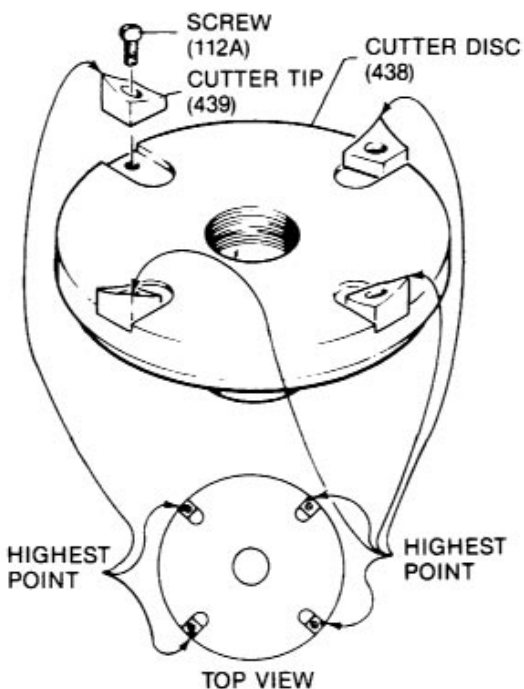
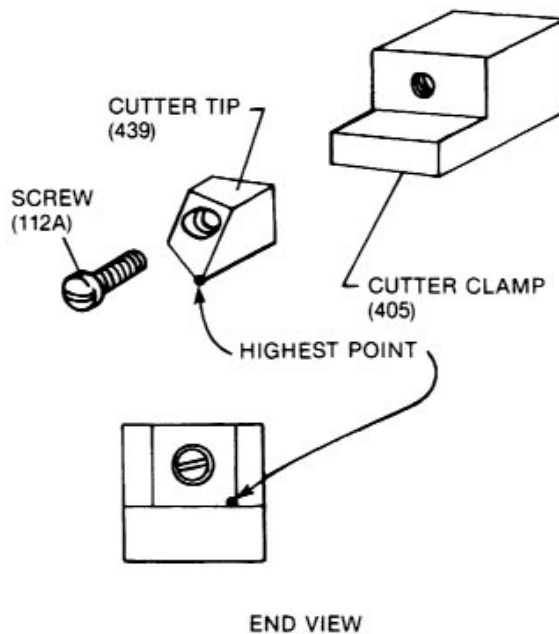

Figure 1
Figure 2
- Press bearings (29) on shaft (26), and locate slinger ring (77) near bearing on threaded end of shaft.
- Press shaft assembly into pump body (1) securing with snap ring (66).
- Install mechanical seal (69) using the following procedure:
- Oil the outer surface of the seal seat, and push the assembly into the bore in the pump body (1), seating it firmly and squarely.
- Locate pinhole on threaded end of shaft (26) and install rotor (22) on shaft. Align slot on rotor with pin hole and install pin (46).
- Secure stator (21) and stator housing (14) to pump body using lock washers (215B) and screws (112C).
- Attach cutter tips (439) to cutter disc (438) with screws (112A). See Figure 1 for correct position.
- Screw cutter tip and cutter disc assembly on drive shaft (26) in a clockwise direction (RH thread).
- Attach cutter tip (439) to cutter clamp (405) using screw (112A). See Figure 2 for correct position.